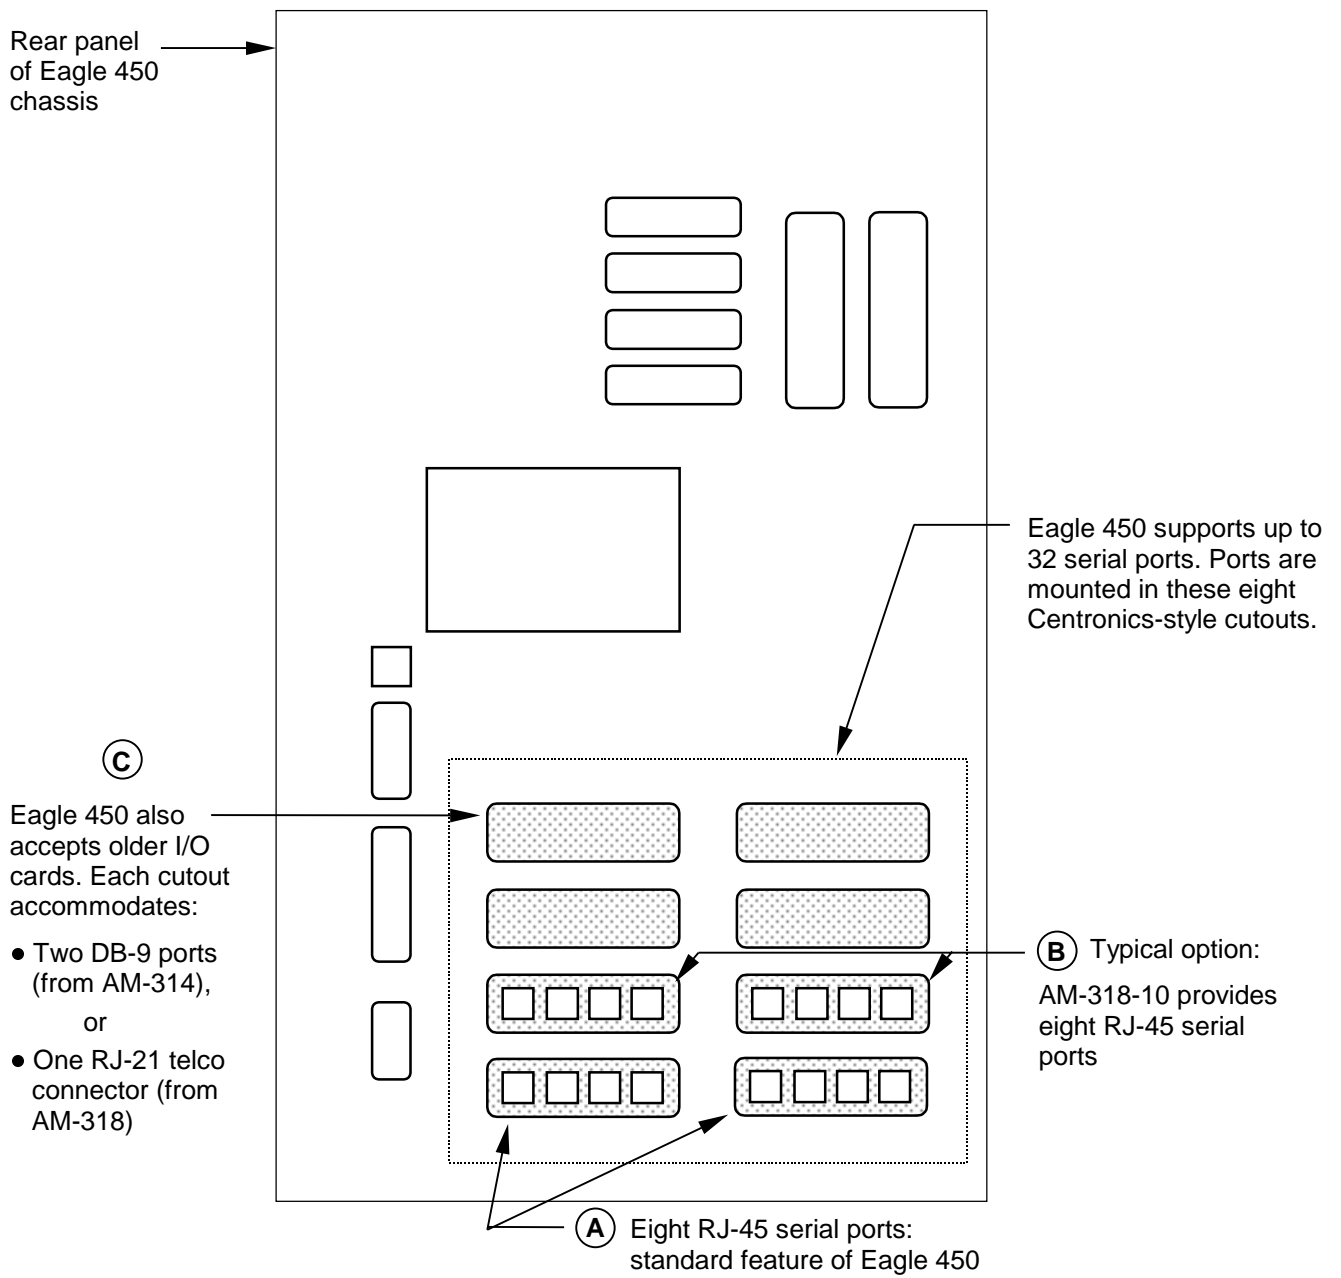

Figure 3. Eagle 450 Serial Ports
The Eagle 450 comes equipped with eight serial ports as standard. The processor board includes three AM-318 style expansion slots, accommodating up to 24 additional ports. All ports mount in Centronics-style cutouts in the rear of the chassis. See Figure 3. This versatile arrangement fits the full range of I/O boards in the AM-314/AM-318 family.
The eight standard ports are driven directly from the system processor board. A cable harness leads from the processor board to eight RJ-45 ports in the rear panel. See (A) in Figure 3. The ports provide full modem control, Super I/O compatibility, and built-in lightning protection. Pinouts are the same as those on an AM-359 card.
Introduced this past January, the AM-318-10 is a highly-featured, technically-advanced, serial I/O interface. The card provides eight RJ-45 ports, with full modem control, Super I/O compatibility, and built-in lightning protection. See (B) in Figure 3. You can configure an AM-318-10 in each of the Eagle 450's three I/O expansion slots. Three cards plus the eight standard ports provide the maximum system configuration of 32 serial ports.
For optimum fit with your existing customer sites and your existing parts inventory, we designed the Eagle 450 to use older I/O cards as well as the new AM-318-10. See (C) in Figure 3. All of the following are fully compatible: